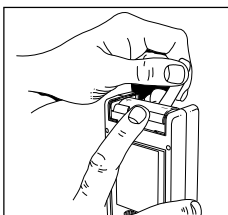

Fig. 18
- Lift the tab with one hand and use the index finger of the other hand to stop the battery falling out (see Fig. 18).